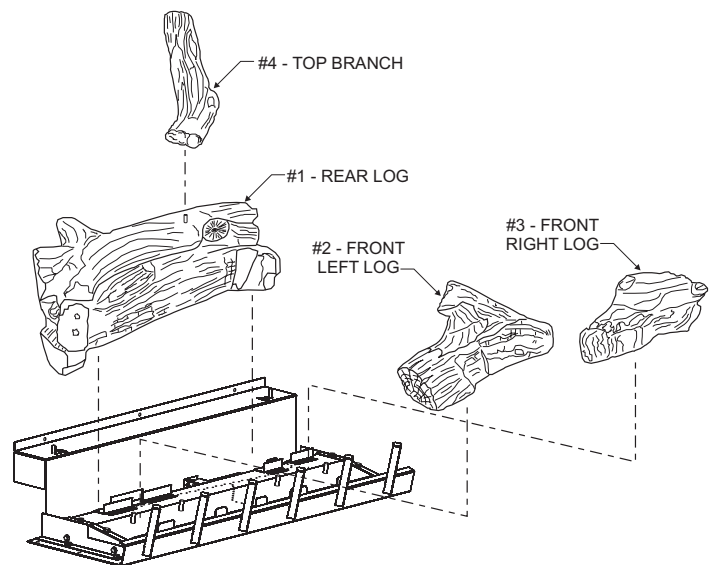

Figure 20
The positioning of logs is critical to safe and clean operation of this fireplace. Sooting and other problems may result if the logs are not properly and firmly positioned in the fireplace. Please refer to **Figure 18**, **Figure 19**, and **Figure 20** and corresponding WARNING, when completing the following log placement steps.
**Attention:** Do not use **Figure 19** or **Figure 20** to order logs. Refer to parts view on page 37 and parts list on page 36 to order logs and/or ember material for your appropriate fireplace model.